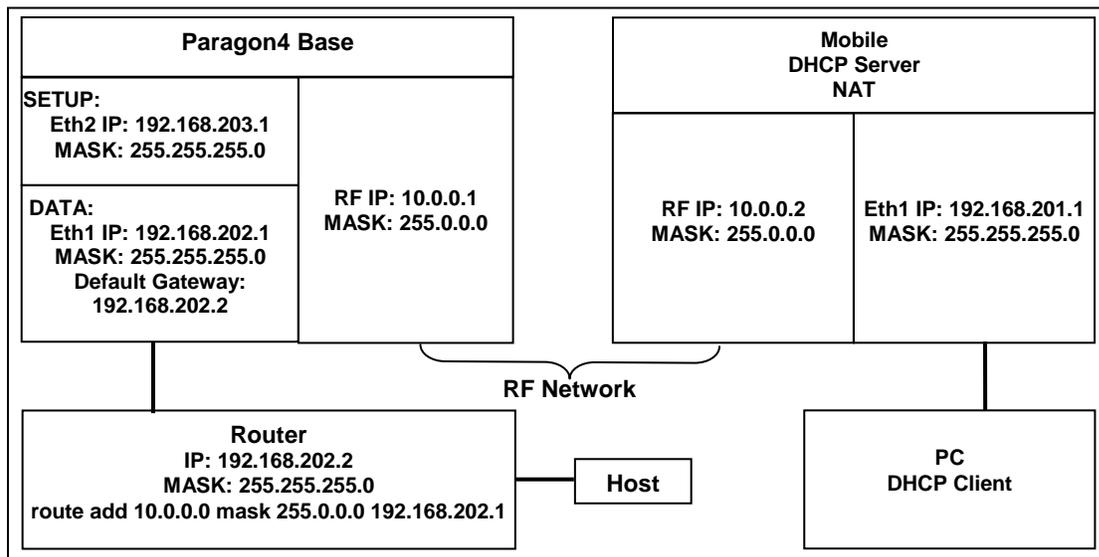

Figure 12 - IP Network Settings in Router Mode (with Router)
Figure 12 below illustrates Paragon4 base station settings. In Setup (Advanced) → LAN (IP), set the ETH1 and ETH2 IP addresses and netmask of both Base and Mobile(s).